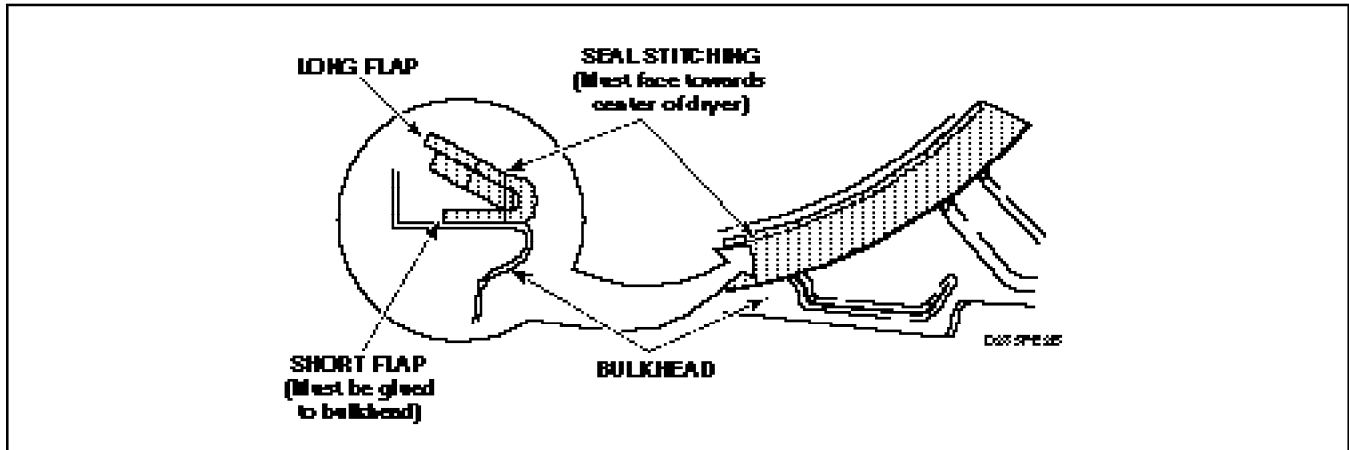

Figure 39
j. **Front Cylinder Seal** (Figure 39)
- (1) The stitching on the seal must face towards the dryer center, *Figure 39*.
- (2) The short flap, *Figure 39*, must be glued to the bulkhead and the long flap left loose.